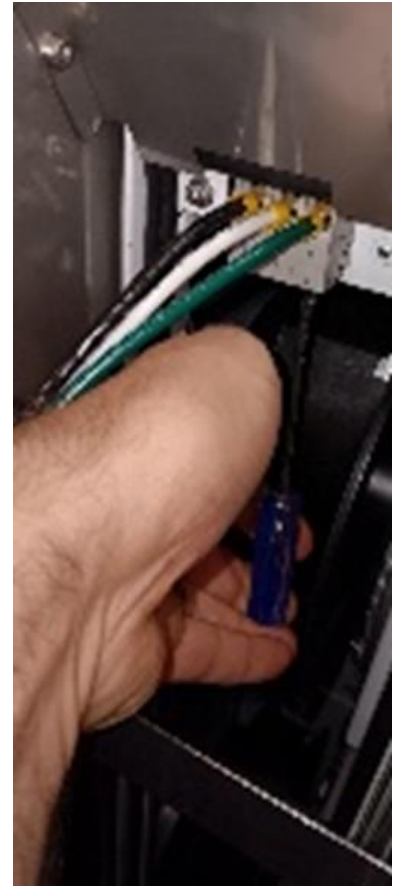

Figure 13 – Reconnecting Line (L), Neutral (N), & Earth (PE) wires into screw terminal
- c. Inside right-side door and using a short flathead screwdriver, no more than 5mm wide, reconnect the 3-wire connector onto the new HX or pass-through opening to reconnect the L, N, and PE wires (Figure 13) and Tug-test viability of terminations.